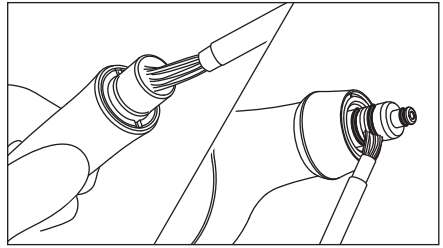

Fig.11
- 1) Carefully clean the inside of the joint section of the handpiece and the O-ring section of the powder case with the attached cleaning brush. (Fig. 11)